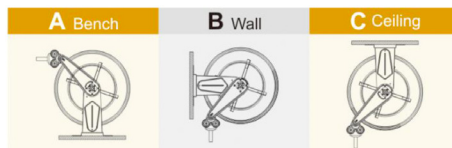

Fig. 2
1. the reel base has four drilled holes for mounting on a suitable flat surface. Figure 2 is a template showing the correct location of the 4 mounting holes in the base.
2. The reel is supplied with a hose guide roller bracket. The bracket position may be changed depending on the reel mounting position. Figure 2 shows "typical mounting position".